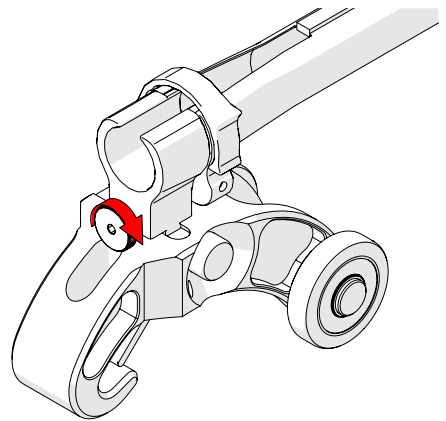

Fig. 102 - Tighten knob
2. Once centred on the Dovetail QuickLink, tighten the cable management's dovetail mount knob (Fig. 102).